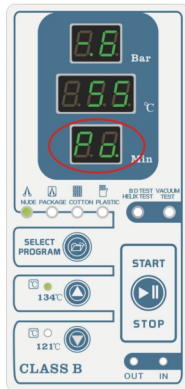

Fig. 8.4-3
(3) **First times Heating stage:** when the vacuum value reach Pv value, the steam generator start inject the steam into chamber, temperature display window show high temperature and up. pressure the steam into chamber, temperature display window show high temperature and up. pressure display window show high pressure and up. operation display window show “Po” . (Fig.8.4-3)
(6) **Second times Heating stage:** When the vacuum value reaches -0.7bar value, the control system will open water pump solenoid valve(Ev2) and steam generator start inject the steam into chamber, temperature display window show high temperature and up. pressure display window show high pressure and up. operation display window show “Po” .(Fig.8.4-3)
(9) **third times Heating stage:** When the vacuum value reaches -0.7bar value, the control system will open water pump solenoid valve(Ev2) and steam generator start inject the steam into chamber, temperature display window show high temperature and up. pressure display window show high pressure and up. operation display window show “Po” .when temperature in chamber up to 134°C(134°C sterilization program) or 121°C(121°C sterilization program), start sterilization.(Fig.8.4-3)